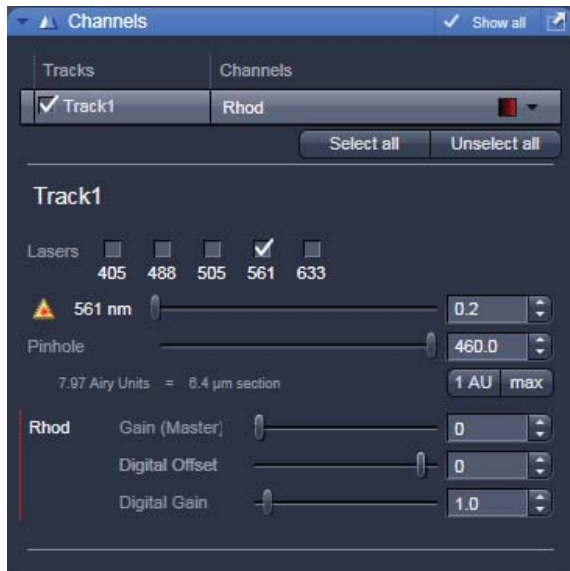

Fig. 4-80 Channels tool
- Activate the **Channels** tool (Fig. 4-80).